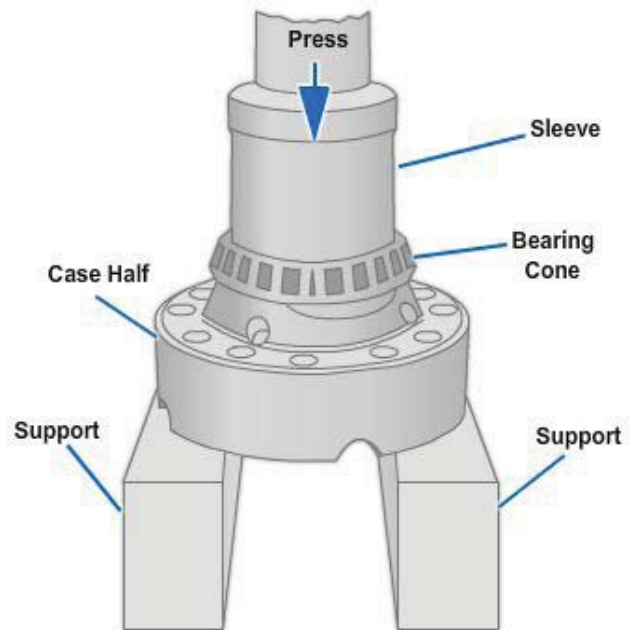

Figure 8-85 - Bearing cone installation in case half.
6. Install the bearing cones on both halves (*Figure 8-85*). Use a press and sleeve if necessary to install the cones.